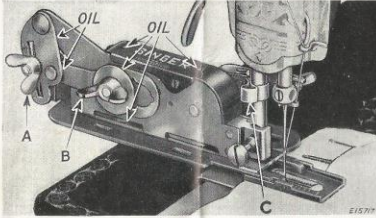

Fig. 3. Left Side, Showing Adjustments and Oiling Points
4. Guide the attachment into position from the rear of the machine so that the fork (D) straddles the hub of the needle clamp, and securely fasten the attachment to the presser bar with the slotted clamping screw (E). Turn the thread cutter (C, Fig. 3) to the left if it interferes with the attachment.
2. Turn the thumb nut (B, Fig. 3) toward you until the feeding foot is in its farthest forward position, i.e., closest to you.
Loosen the thumb nut (A, Fig. 3). Move it down in the slot for longer buttonholes, or upward for shorter buttonholes. Using a scrap of material, adjust the spacing of stitches, the height and the cutting space, as desired.